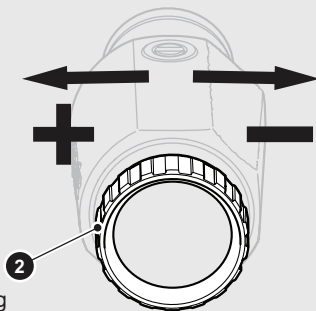

Fig. 4 Diopter setting
Additionally, on the 3X-C it is possible to adjust the diopter setting by rotating the diopter ring (2) as shown in Fig. 4.